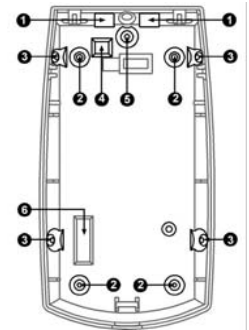

Fig. 1 Knockout holes | Orificios troquelados | Trous de débouchure | Fori ciechi | Otwory montażowe
3. Break out the desired holes for proper installation (Fig. 1 – 2) for flat mount or Fig. 1-3 for corner mount) Use 4 screws type 3x30mm.